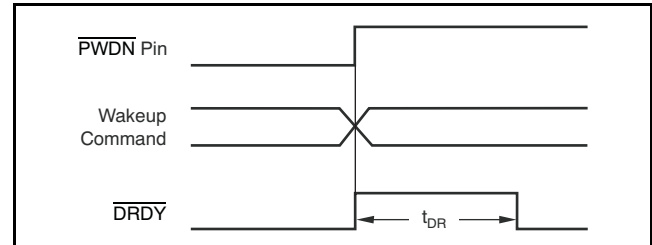

Figure 56. $\overline{\text{PWDN}}$ Pin and Wake-Up Command Timing
In power-down, note that the device outputs remain active and the device inputs must not float. When the Standby command is sent, the SPI port and the configuration registers are kept active. Figure 56 and Table 14 show the timing.
(1) See Figure 56 and Table 14 for time to new data.